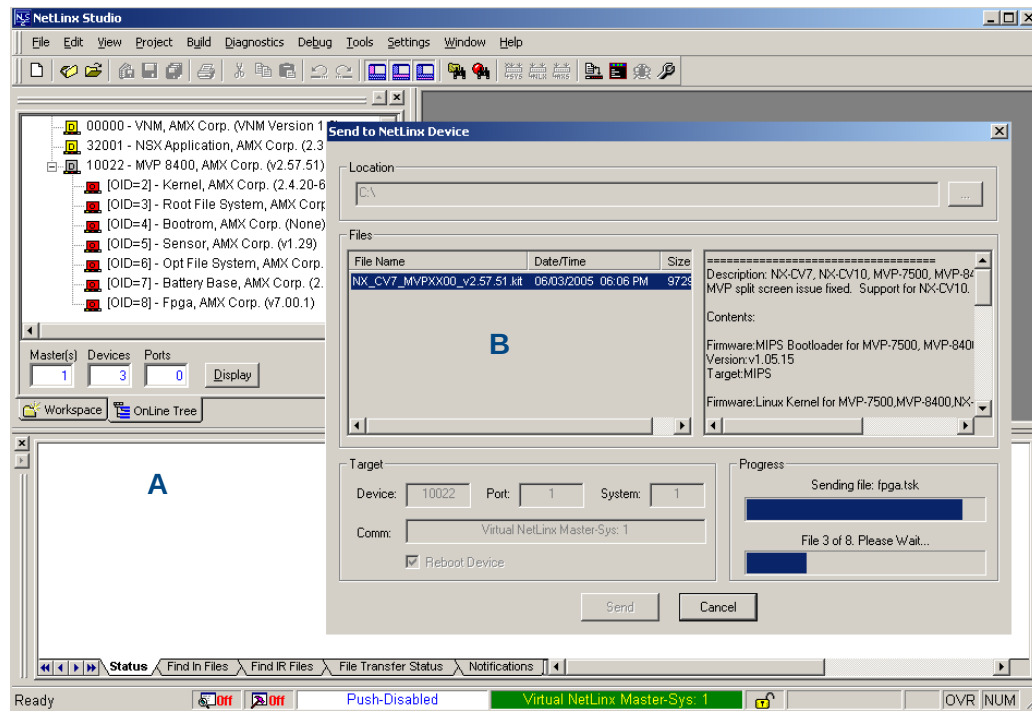

FIG. 69 Using USB for a Virtual Master transfer
7. Select **Tools** > **Firmware Transfers** > **Send to NetLinX Device** from the main menu to open the *Send to NetLinX Device* dialog (B in FIG. 69). Verify that the panel's System and Device number values match those values listed within the System folder in the **OnLine Tree** tab of the Workspace window (A in FIG. 69).
11. Click **Send** to begin the transfer. The file transfer progress is indicated on the bottom-right of the dialog (B in FIG. 69).